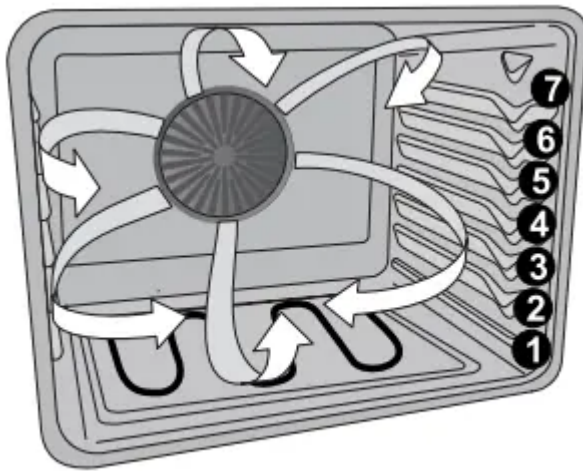

Fig. 1
- When using 2 oven racks at the same time, place in positions 3 & 5 for best results (See Fig. 1).
Use the broil feature to cook meats that require direct exposure to radiant heat for optimum browning results. When broiling always remember to arrange the oven racks while oven is still cool. Position the rack as suggested in the **broil settings table** (See Figs. 1 & 4).